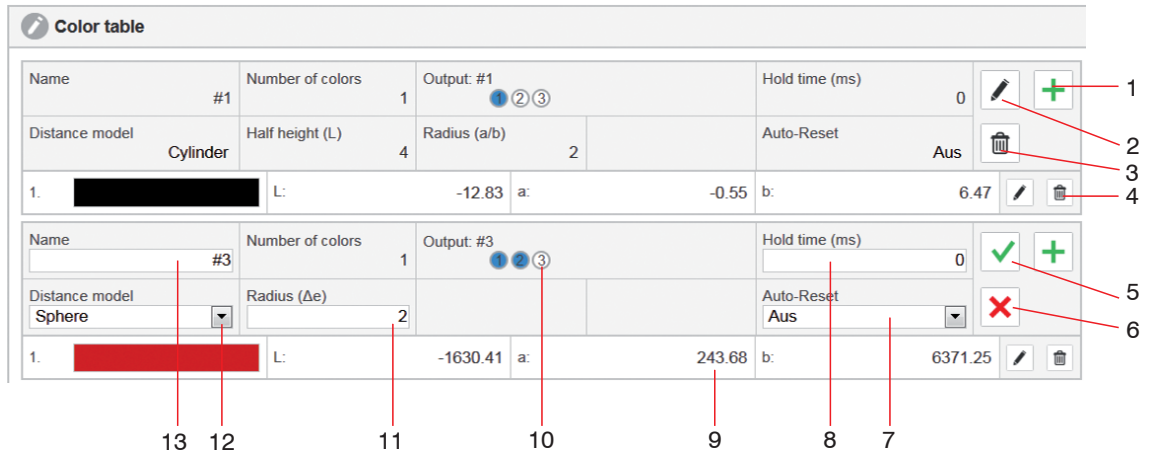

Fig. 47 Excerpt, color table
Teaching colors	Teaches current color (1) and adds it to the corresponding color group memory, <a href="#">see Fig. 47</a> .
Edit	Allows editing and setting the color group (2). The settings of a color group can be changed, such as Name (13), Distance model (12), tolerance size, Hold time (8) of the output signal, output configuration.  The name may be a maximum of 64 characters long and contain only alphanumeric characters (a-z, A-Z, 0-9, no umlauts), spaces and the special characters +-#.,(), <a href="#">see Fig. 47</a> .
Delete	Deletes a color group (3) or color (4), <a href="#">see Fig. 47</a> .
Apply	Applies the current entry (5), <a href="#">see Fig. 47</a> .
Cancel	Discards the current entry without saving (6), <a href="#">see Fig. 47</a> .